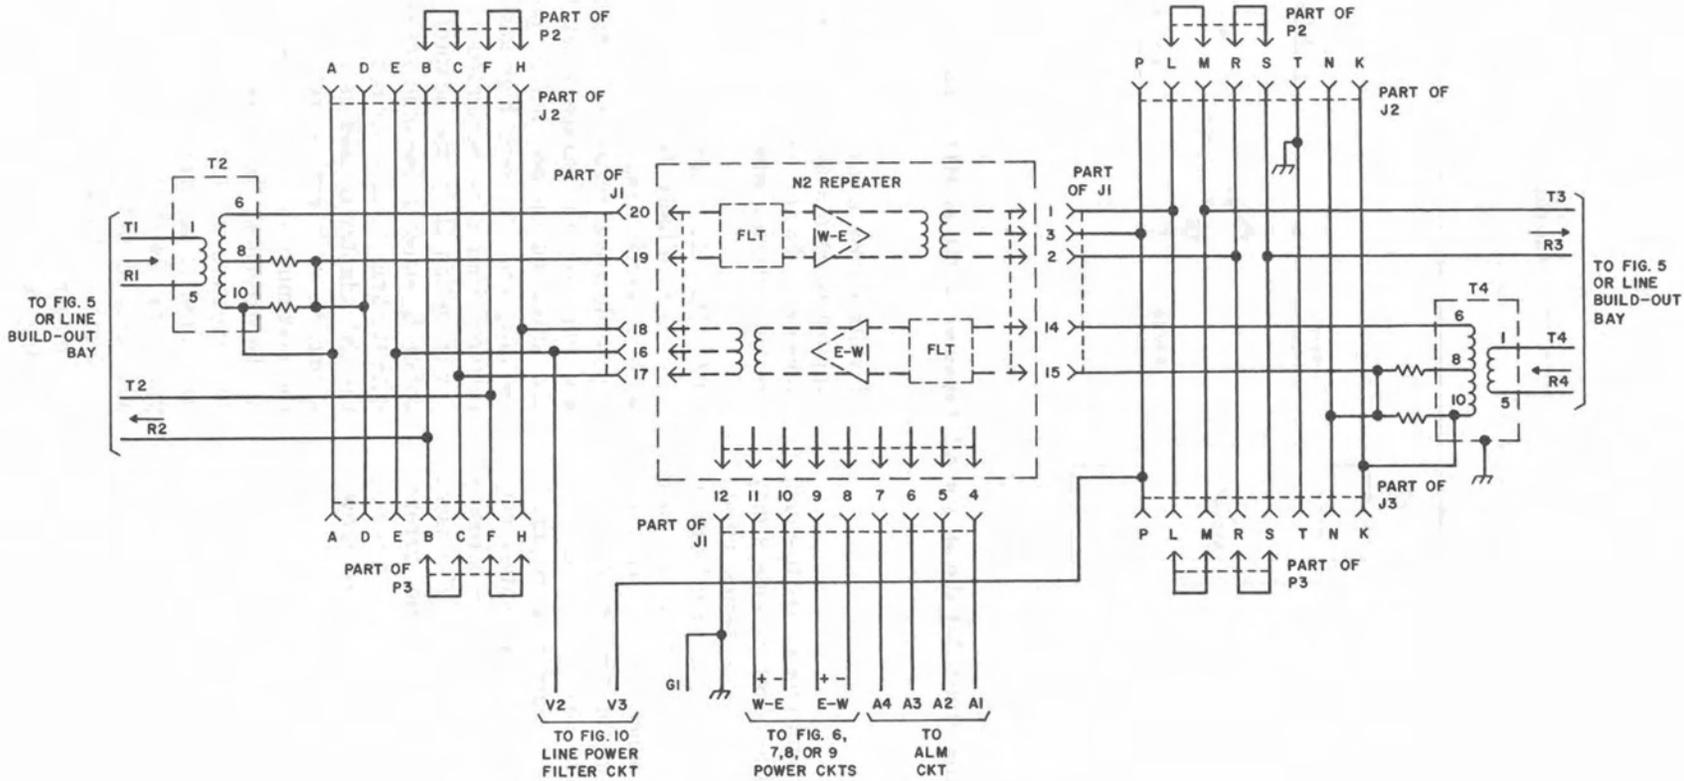

Fig. 4—N2 Repeater Connecting Circuit
**3.02** The repeater connecting circuit is shown in Fig. 4. The receiving pairs from the line building-out circuits connect to transformers T2 and T4 for the two directions of transmission. The hybrid arrangements in the secondary windings of these transformers provide a means of coupling the received carriers to the N2 repeater via jack J1 and to external test equipment via jack J2 or J3 without introducing level changes in the system.